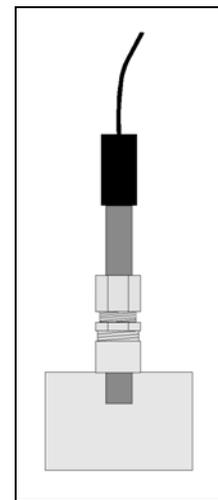

Figure 3 - Sensor in PVC Tee
- on a 1/2 in. bypass line as shown Figure 3,
Use only the 2x2x1/2 in. SST reducing tees without reducers (Figure 3). Do not install the sensors near an elbow or a constriction where there might be excessive turbulence.